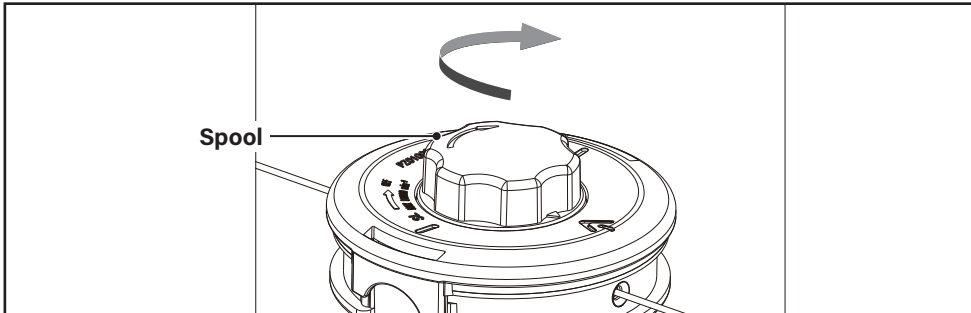

Fig. 24
6. Press and rotate the spool head in clockwise direction to wind the cutting line (D10) in the spool (Fig. 24).